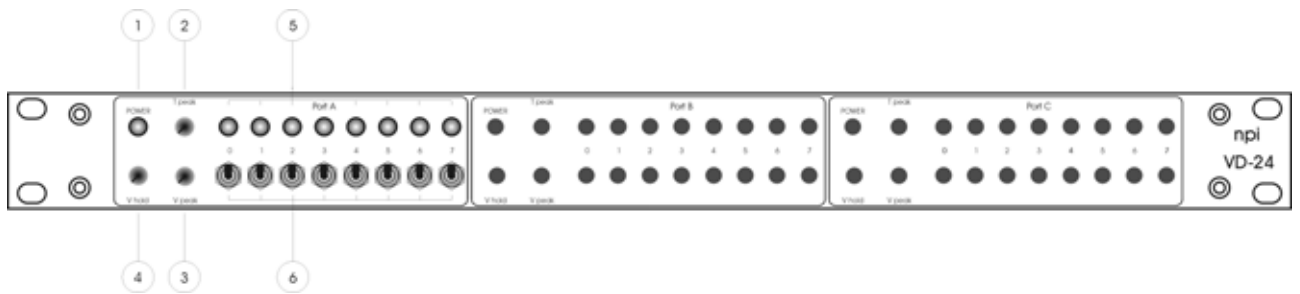

Figure 3: Front panel view of the VD-24-01
- Set the peak voltage with the potentiometer labeled Vpeak at the front panel (#3, Figure 3).
- Set the duration of the peak voltage with the potentiometer labeled Tpeak at the front panel (#2, Figure 3).
- Set the holding voltage with the potentiometer labeled Vhold at the front panel (#4, Figure 3).